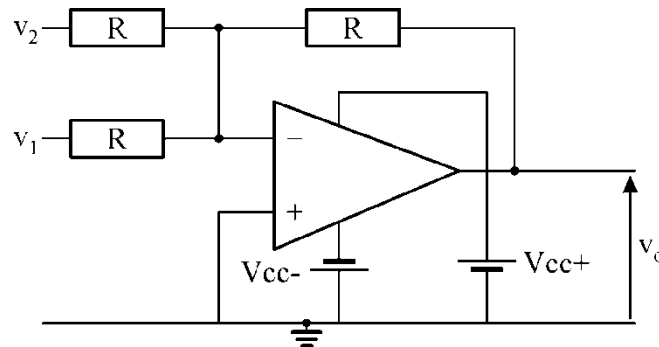

FIGURE 4. An analogue adder.
- ◇ Work out what the output signal of Figure 4 will be if the input signals are $\sin(\omega t)$ and $\sin((\omega+60\pi)t)$.
Hence describe and sketch what the output signal of Figure 4 will look like:
A simple circuit to add two signals is shown in Figure 4.